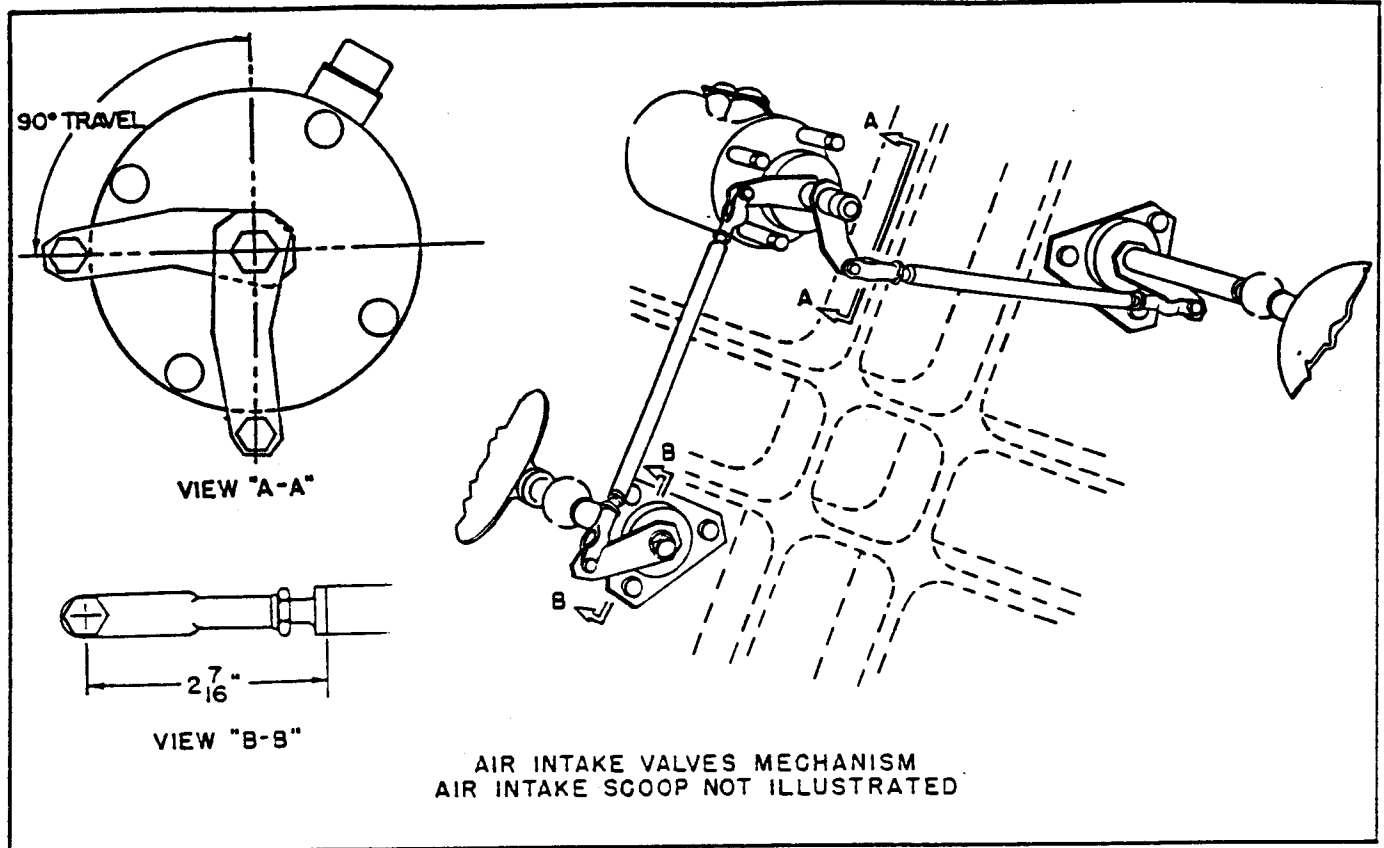

Figure 24. Turbosupercharger (Carburetor Air) Ram Air Intake Valve Mechanism
(7) TURBOSUPERCHARGER (CARBURETOR AIR) RAM AIR INLET SCOOP VALVE. (See figures 24 and 25.)- Each turbosupercharger incorporates a scoop containing a butterfly type air valve which may be adjusted to admit rammed air in a "Normal" or maximum open position, a "Pre-heat" or restricted position, or through a filter ("Filter" position). Valve position is affected by means of four 208 volt, 3 phase, 400 cycles A.C., reversible, motor actuators; one for each pair of turbosuperchargers. The motors, all of which operate in unison, are normally controlled by a single pole, triple throw, manually operated switch on the flight engineer's upper switch panel. However, if the rammed air pressure becomes excessive (with the flight engineer's switch in "Pre-heat" or "Filter" position) an override switch causes the butterfly valve to return to the maximum open position where it will remain until the pressure has again diminished to normal. The valve will again return to the position previously determined by the setting of the flight engineer's switch.